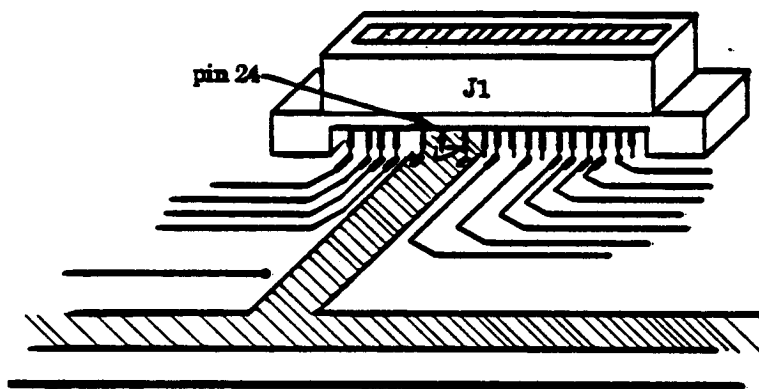

Figure 1. Pin 24 Isolation.
4. Using either an X-ACTO knife or a Dremel tool (150 Bit), isolate Pin 24 of J1 from ground by making a "V" or "U" shaped cut in the trace on the component side of the PCB (See Figure 1). Be careful not to isolate Pins 23 and 25 from ground.